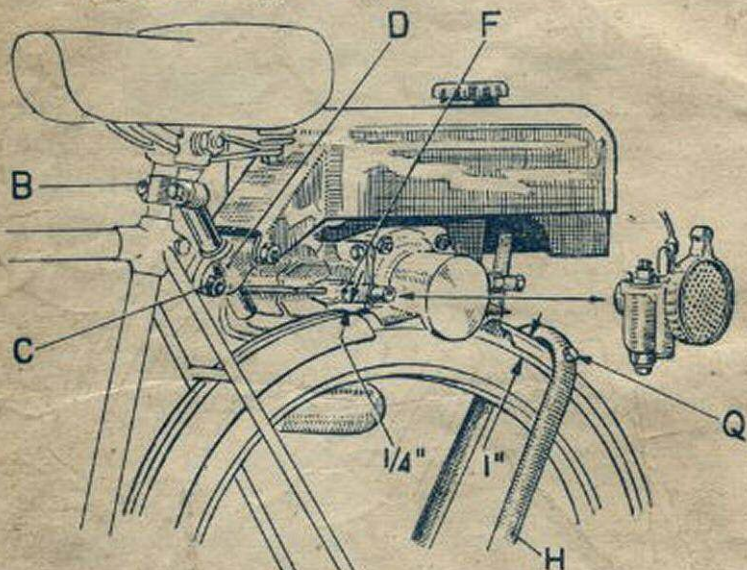

Fig. 3
- (4) Now replace the unit as before and the roller will rest on the tyre. Move again the sliding hinge "D" to bring the tank afresh into a horizontal position. Make sure now that the cylinder fins and the inlet tube are at least $\frac{1}{4}$ in. clear of the mudguard. If the clearance is less, it is necessary to cut away the sections of the mudguard which may endanger the free movement of the engine. (Fig. 3.)
- (5) Now look at the bicycle from the rear. Make sure that the tank top is parallel to the spindle of the rear wheel of the bicycle and that the roller rests well on the middle of the tyre.
- (6) Now tighten the clamp bolts "B" and sliding hinge bolts "C," (Fig. 3.)
- (7) Undo the nuts of the wheel spindle "G" (Fig. 1) and spring the U shaped fork "H" into position. Each branch of the fork carries at its lower end a series of holes. The hole selected to go onto the wheel spindle must be chosen in order that a space of about 1 in. is allowed between the tyre and the fork. (Fig. 3.)
- (8) Two holes "Q" must now be drilled through the rearward portion of the mudguard at about $\frac{1}{4}$ in. from the edge where the cut (see paragraph 3) was made. The U shaped stay should then be bolted to the mudguard. (Fig. 3.)